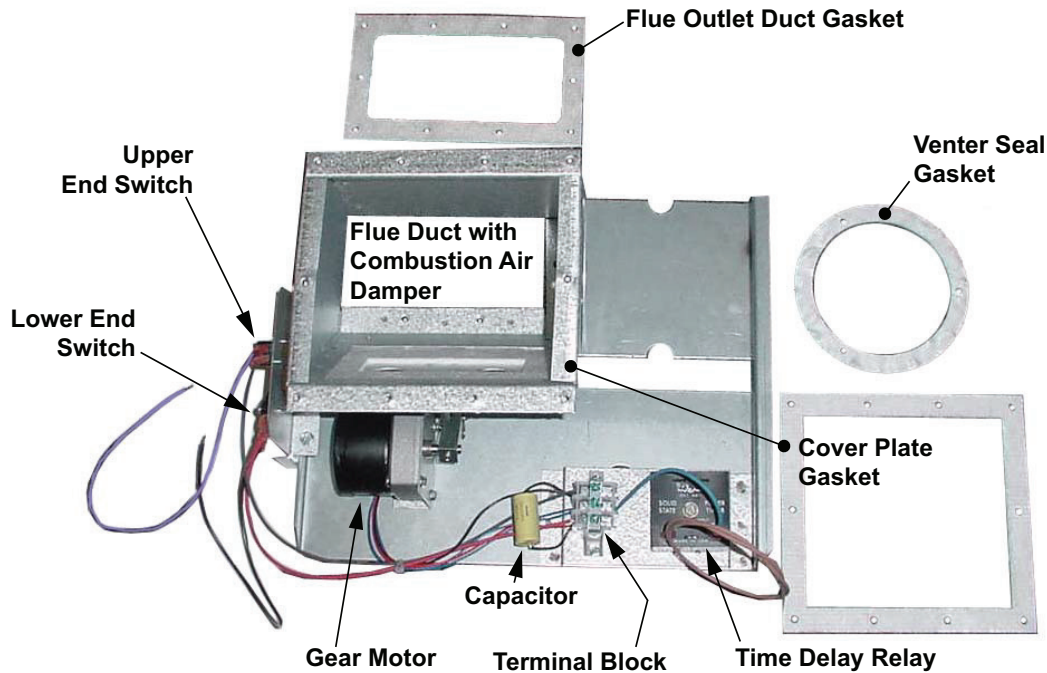
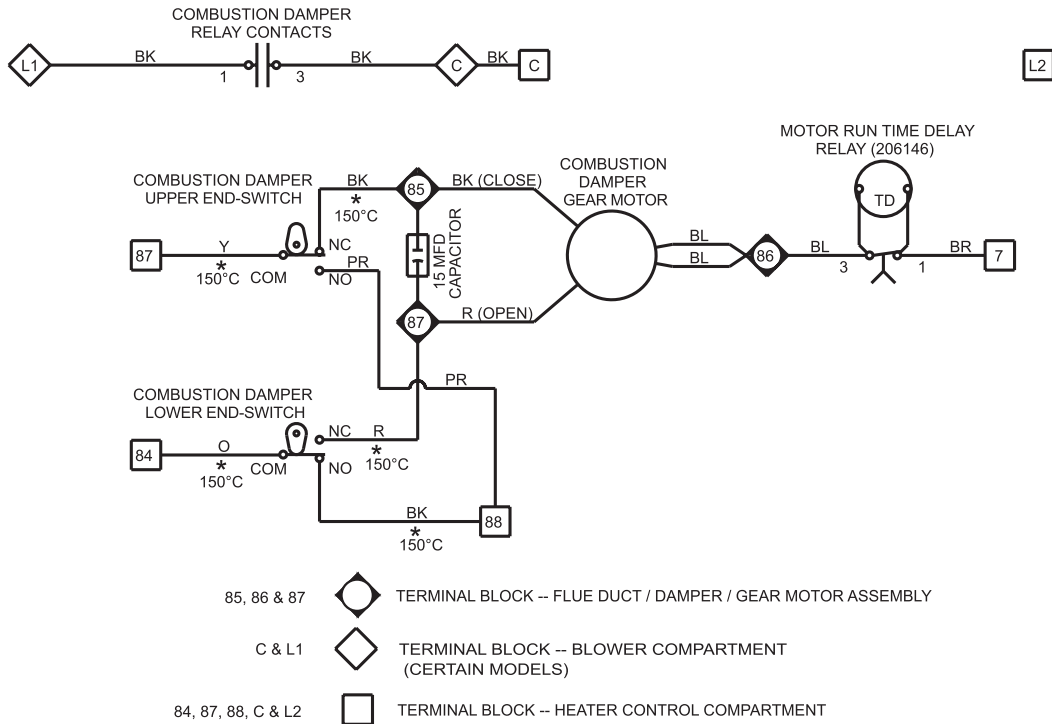

Figure 1. Replacement Flue Duct and Damper Assembly
Figure 4. Replacement Gear Motor Wiring Diagram
5. Install replacement flue duct and damper assembly (1) with gear motor (see Figure 1):
- a. Install replacement flue outlet duct gasket (4) and restrictor plate removed in step 4e and secure replacement flue duct and damper assembly (1) to heater.
- (1) Remove screws that secure patch plate to side of flue duct in replacement assembly and remove patch plate.
- (2) Slide long sensing tube through hole and position it so that tube extends into round venter opening on side of flue duct.
- (3) Secure sensing tube plate to flue duct using screws removed in step 5b(1).
- (4) Install free end of rubber tubing connected to pressure switch onto metal tubing on side of flue duct. Ensure that tubing is secure.
- c. Install replacement cover plate gasket (2) and secure flue duct cover plate removed in step 4b to front of newly-installed flue duct and damper assembly.
- a. Install replacement venter seal gasket (3) and orifice plate removed with venter housing and re-install venter housing.
7. Connect wiring (see Figure 1 and Figure 4):